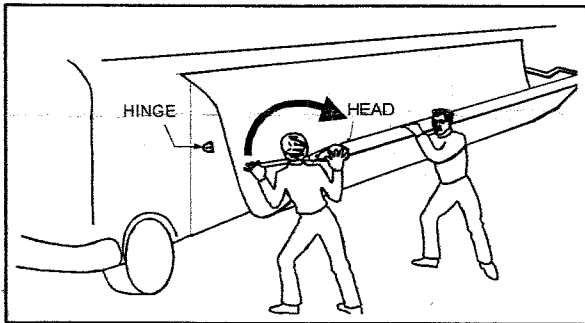

Figure 5
9. With a second person holding the awning roller firmly away from the vehicle, (Fig. 5) unbolt the left support arm from the hinge and wind the arm clockwise **30 revolutions**. Bolt the arm to the hinge. Allow the awning to gently roll closed. Securely tighten all nuts and bolts.